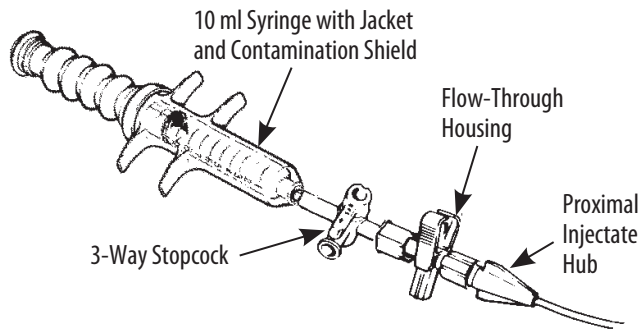

Figure 3. Flow-Through Housing Connected to Catheter Injectate Lumen
When used in conjunction with the Injectate Temperature Probe, the Flow-Through Housing (Model 93505) allows direct temperature measurement of the thermal indicator at the proximal lumen infusion site. Measurement of the injectate temperature at the infusion site helps reduce errors frequently encountered in standard injection techniques (for example, injectate warming caused by handling the syringe). The temperature of the injectate is fed directly by the injectate temperature probe into a patient monitor for curve analysis and determination of cardiac output. An appropriate computation constant must be entered into the computer to determine the correct cardiac output. A 3-way stopcock should be placed proximal to the flow-through housing (Figure 3) for standard catheter maintenance and fluid withdrawal.
1. Verify that the fluid path is completely free of air. Attach the flow-through housing to the catheter injectate lumen stopcock. (Figure 3)